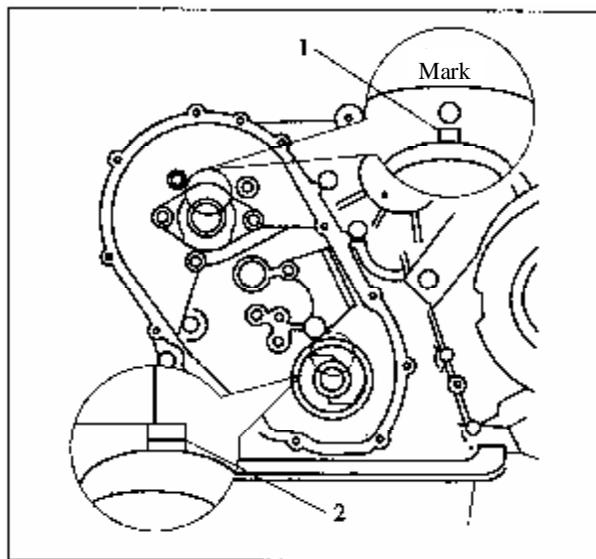

Figure 3-45 Installation of Timing Sprocket and Timing Chain
- (1) When to install camshaft thrust plate, its side with two depressions should direct to engine front;
- (2) Rotate the crankshaft to move sprocket key to the top, let the key on camshaft top and align with the depression mark on thrust plate (see Figure 3-45).